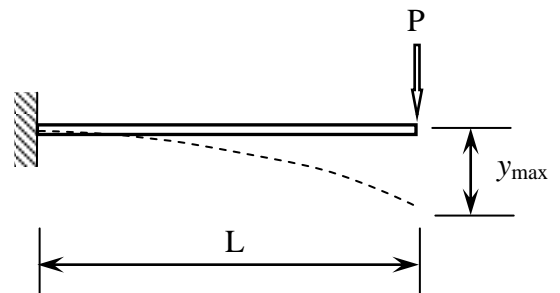

Fig. Q1A
- (i) Determine the maximum deflection (y_{\max}) of a cantilever beam (shown in Fig. Q1A) which is subjected to a point load P at its free end. Use Rayleigh Ritz method assuming a cubic polynomial function.